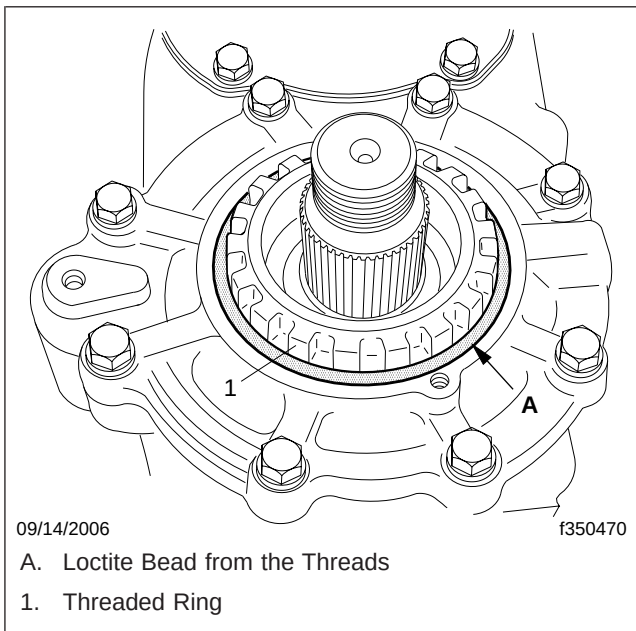

Fig. 3, Preliminary Installation of the New Threaded Ring
8. Install the threaded ring (without the new input-shaft seal) and turn it clockwise (tighten it) enough to form a uniform bead of sealant all the way around the threaded ring. See **Fig. 3**.